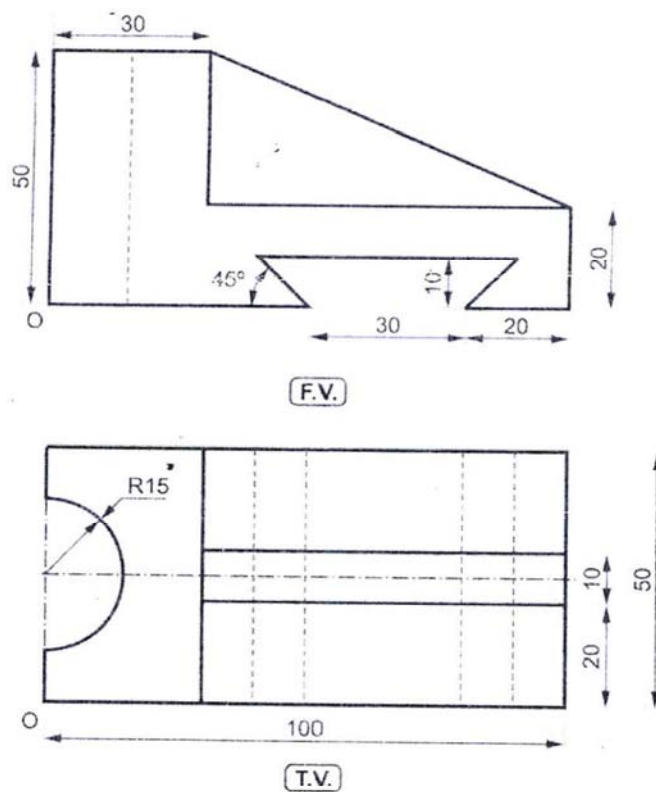

Fig. No. 4
8. Fig. No. 4 shows the FV and Top view of an object. Draw the isometric view using natural scale. [12]